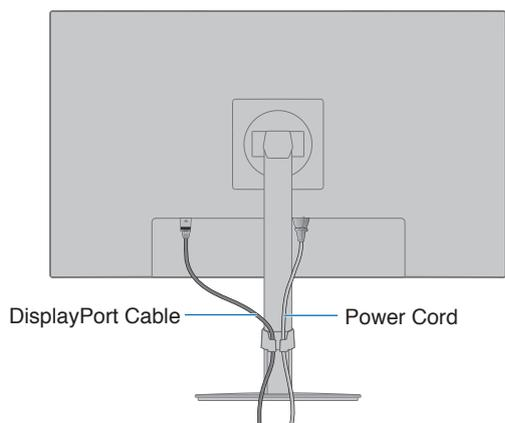
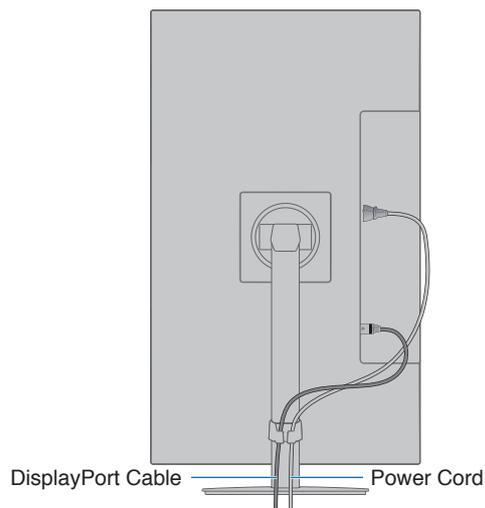

Figure 5
Figure 6
4. Please check that you can still rotate, raise and lower the monitor screen after you have installed the cables (**Figure 5** and **Figure 6**).